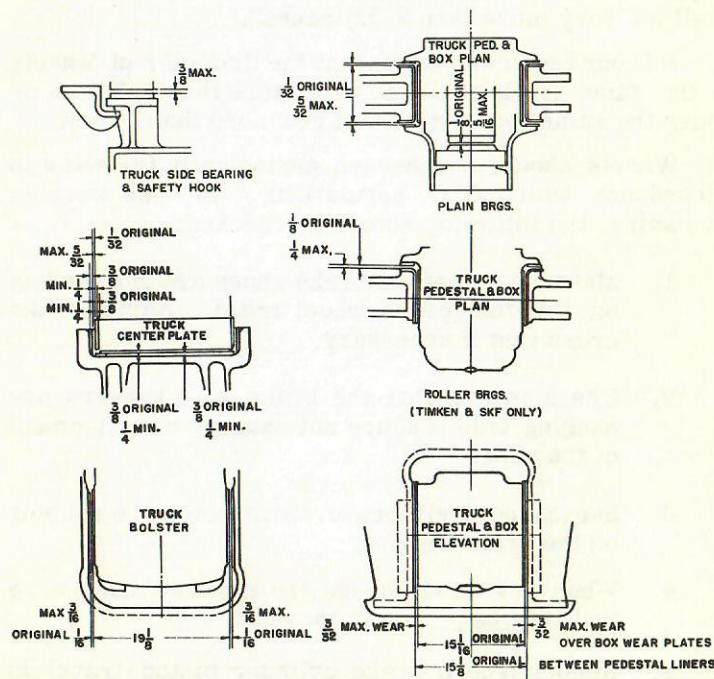

FIG. 6-7
1. The following items should be inspected and compared with Fig. 6-7, Four Wheel Truck Clearances and Wear Limits: